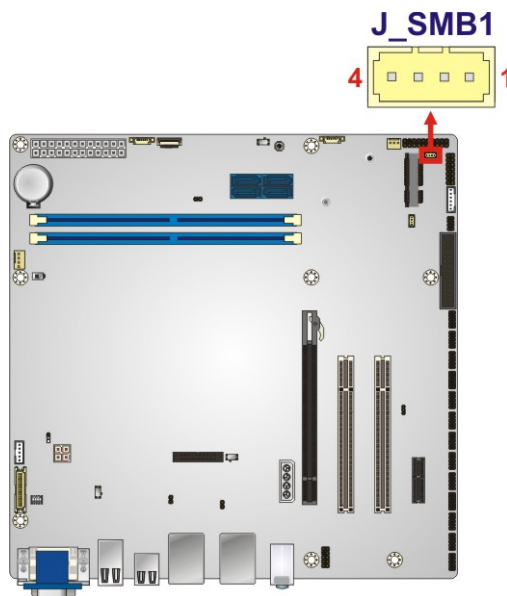

Figure 3-29: SMBus Connector Location
- CN Location:** See **Figure 3-29**